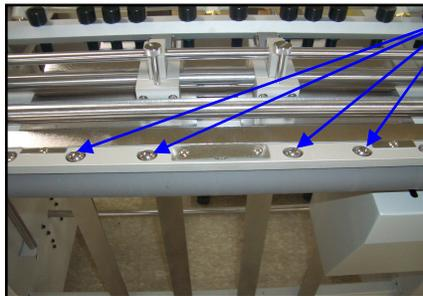
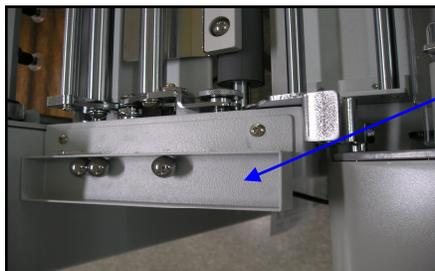

Figure 28
Figure 29
3. Use the supplied magnet to remove the steel ball bearings, (Fig. 28) and place them in the tray, (Fig. 29).